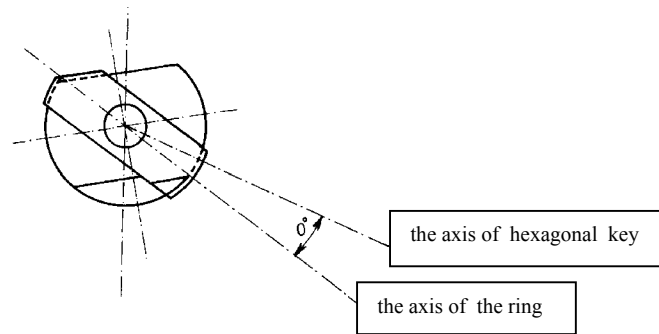

Fig. 7.4 The top view - the angle in horizontal plane
1. *The holder stops in the incorrect angular position with respect to the axis of the hexagonal key - incorrect main azimuthal position in horizontal plane (see Fig. 7.4).*
It is assumed the axis of the ring and the axis of the hexagonal key lie in the same vertical plane (see Point 1 and Fig. 7.4).